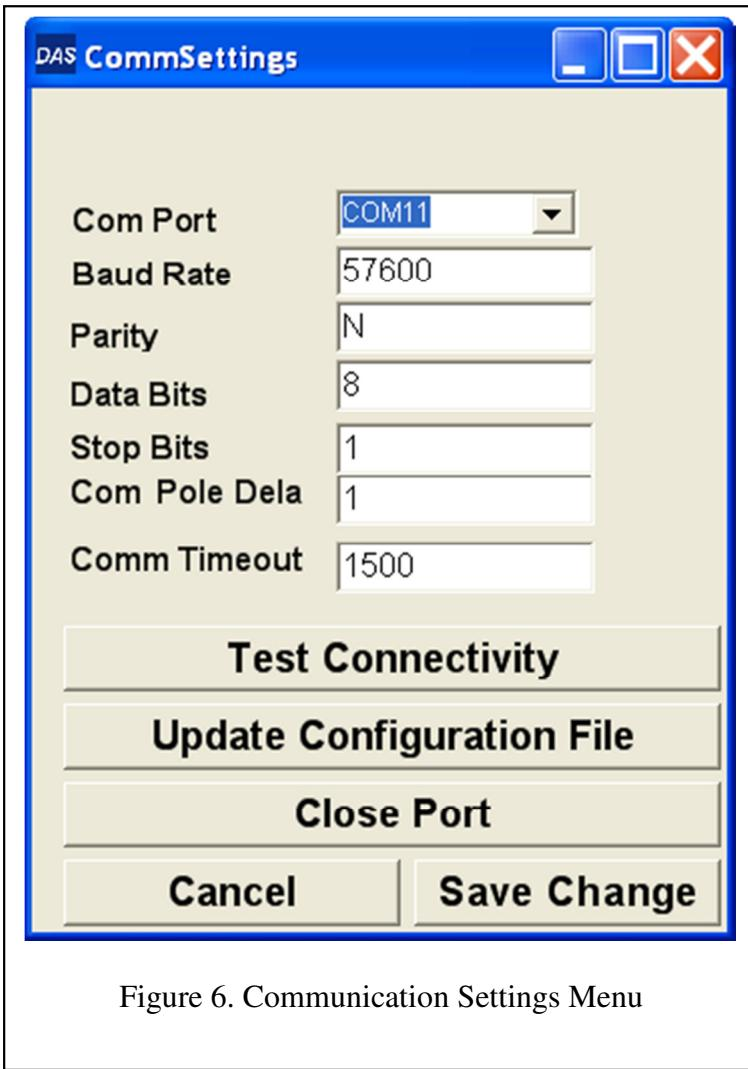

Figure 6. Communication Settings Menu
- 1) With the **DAS Acquisition Main** window open click on **Communication Params**. This will open up the **CommSettings** window (Figure 6).